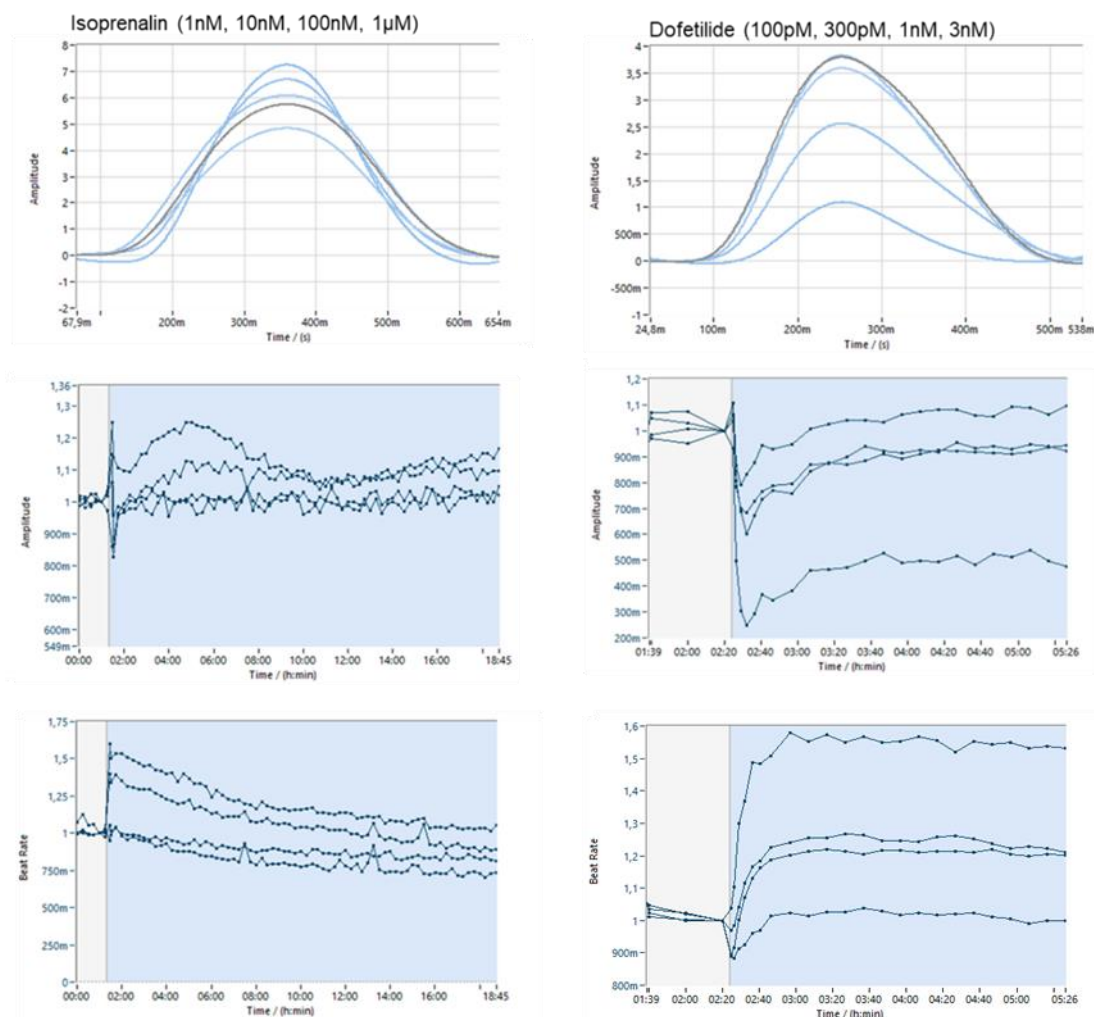

Figure 4. Responses of Cardiosight®-S cardiomyocytes to compound application recorded on FLEX96.
5. The representative traces of FLEXcyte 96 for control and compound conditions using Cardiosight®-S are shown in Figure 4.